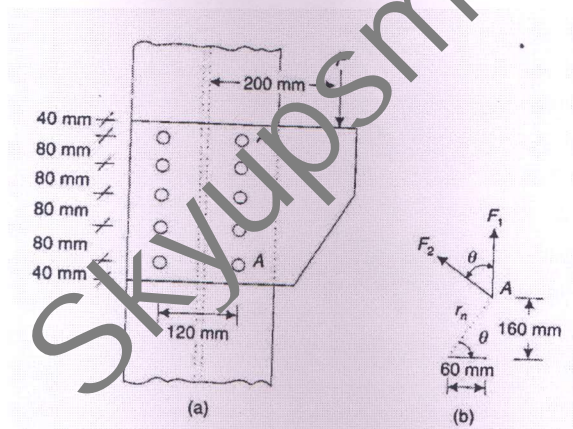

Figure-2
8. Determine the safe load P that can be carried by the joint shown in figure -2. The bolts used are 20 mm diameter of grade 4.6. The thickness of the flange of I-section is 9.1 mm and that of bracket plate 10 mm. [10]